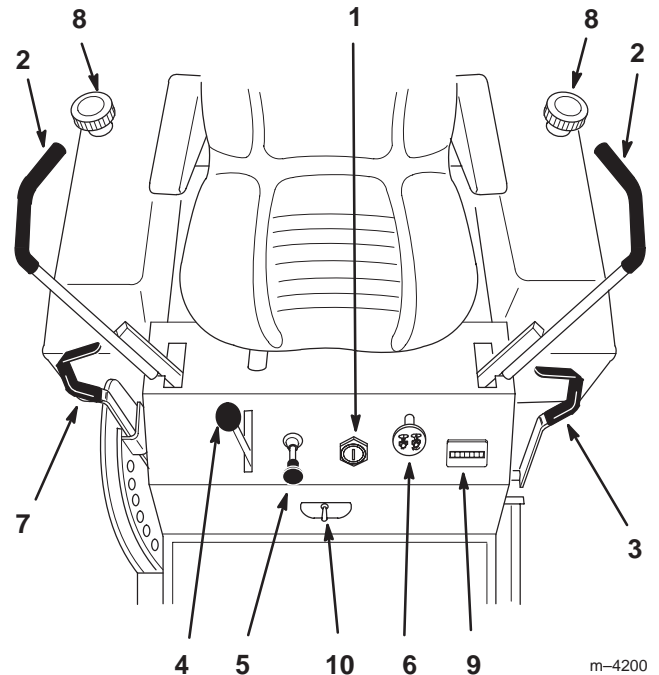

Figure 9
Become familiar with all the controls (Fig. 9) before you start the engine and operate the machine.
1. Move the motion control levers (Fig. 9) out to the neutral lock position.